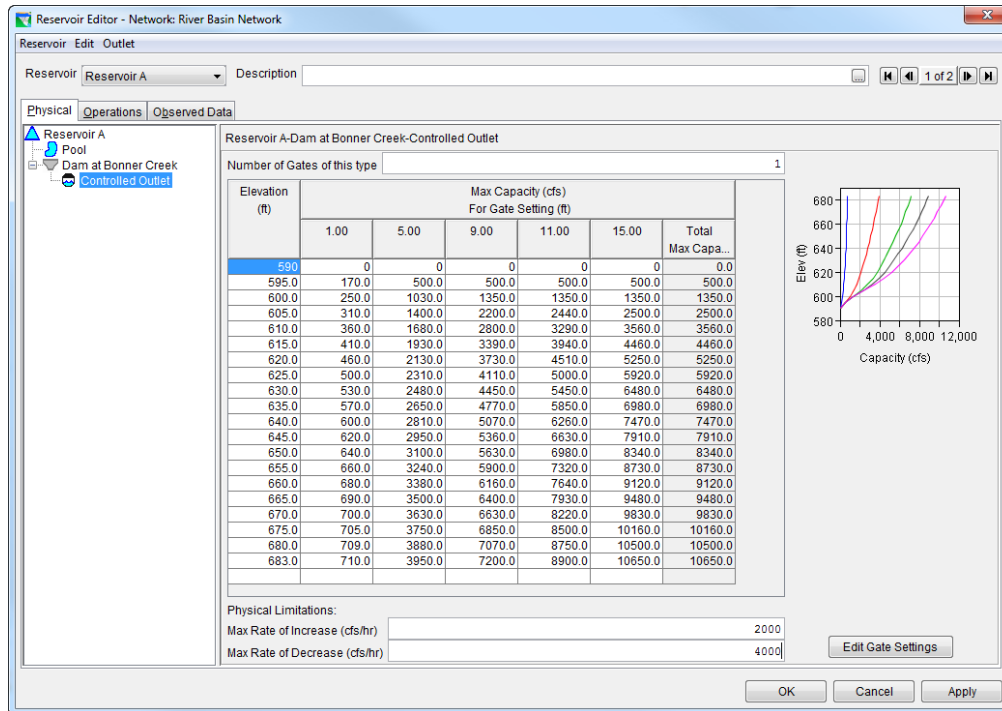

Figure 27: Reservoir Editor, Gated Outlet
2. In the Alternative editor, ensure that the appropriate **Configuration** name is displayed from the list of available configurations. Then, from the **Alternative** menu, select **New** (as shown in Figure 27).